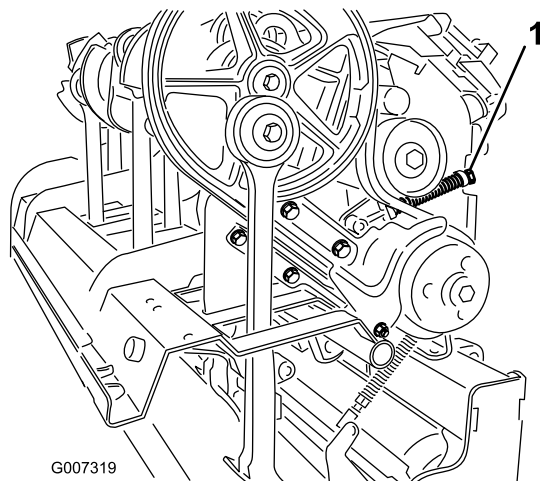

Figure 34
4. To release the idler spring tension, loosen the lock nut securing the spring retainer (Figure 34) and rotate the spring retainer.